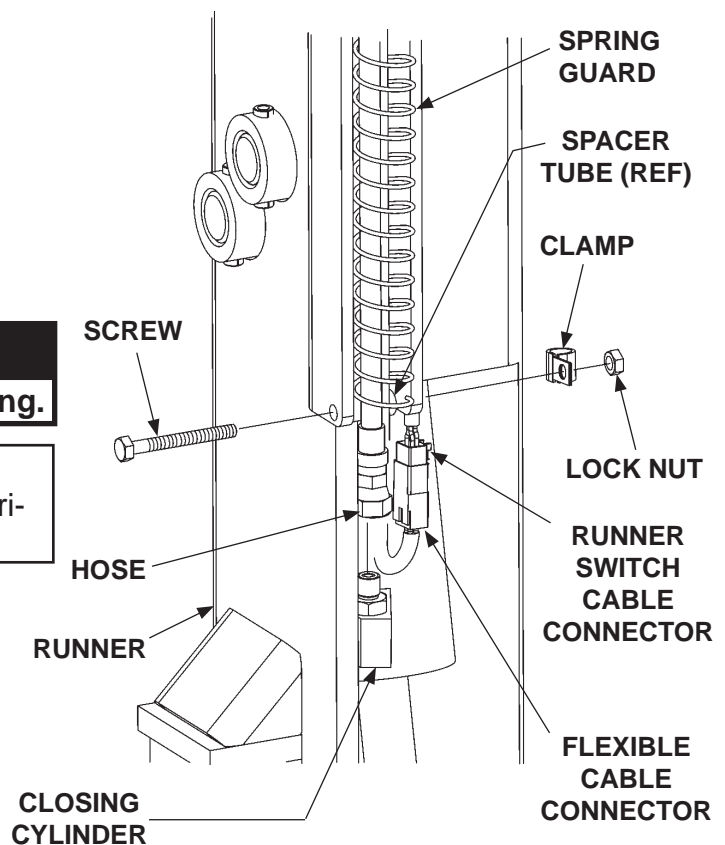

FIG. 33-2
28. Place spring guard, flexible cable, and hydraulic hose in channel at bottom of runner (FIG. 33-2).
29. Reconnect hydraulic hose to closing cylinder (FIG. 33-2).
30. Reconnect runner switch cable to flexible cable at bottom of runner (FIG. 33-2). Clamp the runner switch cable to runner with screw, clamp, and lock nut.